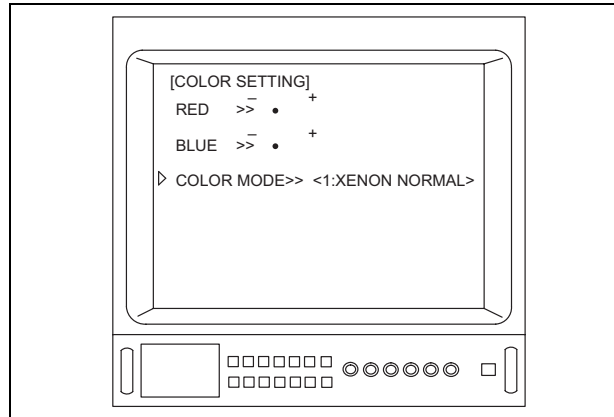

Figure 5.26
6. Depress the menu switches “◀” or “▶”, or the “↑/↓/←/→” key on the keyboard to move the arrow “▷” to “COLOR MODE” (see Figure 5.26).
Depending upon the OTV-S7V's settings, the menus shown in Figures 5.26 and/or 5.27 may appear different from those displayed on the video monitor.